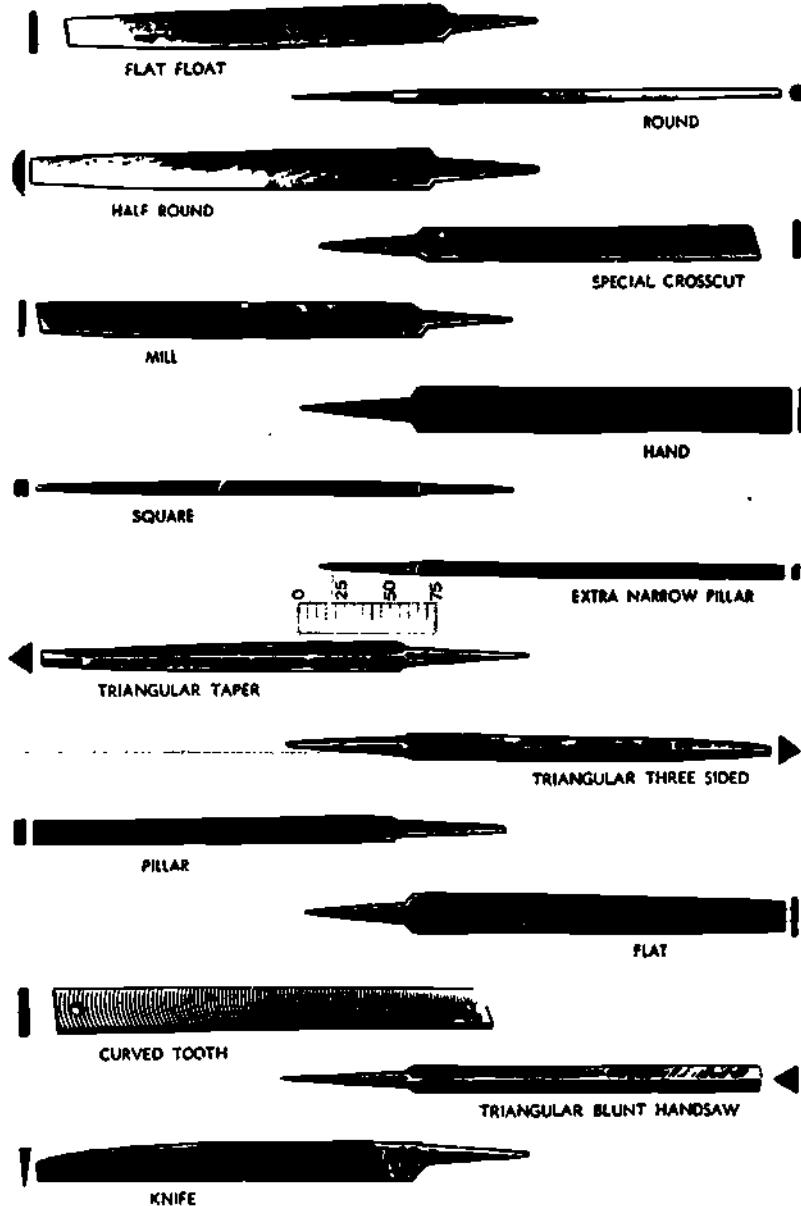

Figure 1-81. Types of Steel Files
a) Files are used for cutting, smoothing, or removing small amounts of metal. They are made in various lengths, shapes, cuts, and spacings of teeth, as shown in Figure 1-81.